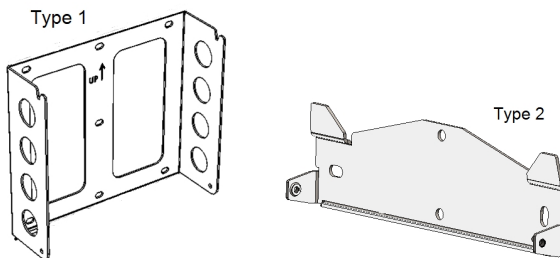

Figure 5: Mounting bracket types
- For Type 2 – Ensure that the flat side of the bracket is at the bottom, as in *Figure 5*.